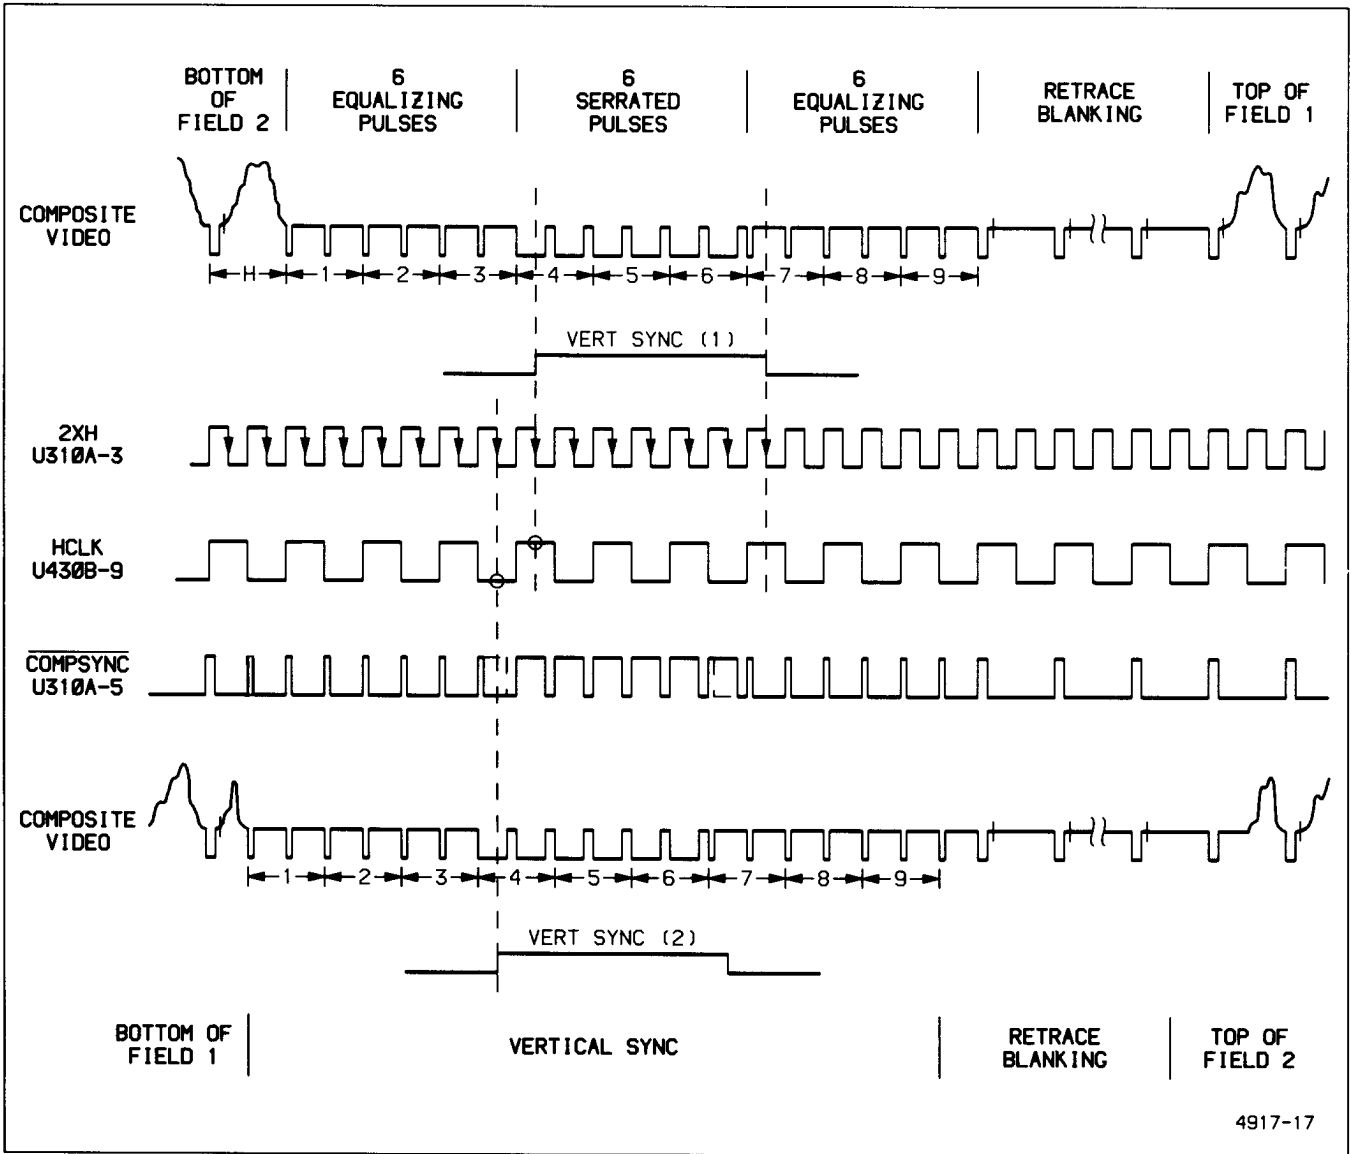

Figure 3-14. Video Option field-sync identification.
**VERTICAL SYNC.** The Vertical Sync circuitry outputs pulses for both the Field 1 and the Field 2 vertical-sync times. These VERTSYNC pulses are used to toggle the Field Sync Generator. The VERTSYNC signal is produced by clocking the level of the  $\overline{COMPSYNC}$  signal on the D input (pin 5) of U310A into that flip-flop using the inverted two-times horizontal clock  $\overline{2XH}$ . Figure 3-14 shows that only during a vertical-sync interval will the  $\overline{COMPSYNC}$  signal be HI on the rising edge of the  $\overline{2XH}$  clock. At all other (non-vertical sync) times, the  $\overline{COMPSYNC}$  signal will be LO on the rising edge of the  $\overline{2XH}$  clock. Thus, the Q output of flip-flop U310A will be clocked HI during vertical-sync intervals for VERTSYNC, and it will be clocked LO during the rest of the field.